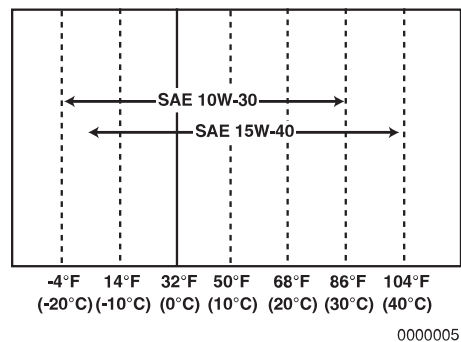

Figure 5
- Select the oil viscosity based on the ambient temperature where the engine is being operated. *See Engine Oil Viscosity Figure 5.*
- Select the appropriate engine oil viscosity based on the ambient temperature shown in the SAE Service Grade Viscosity Chart (**Figure 5**).